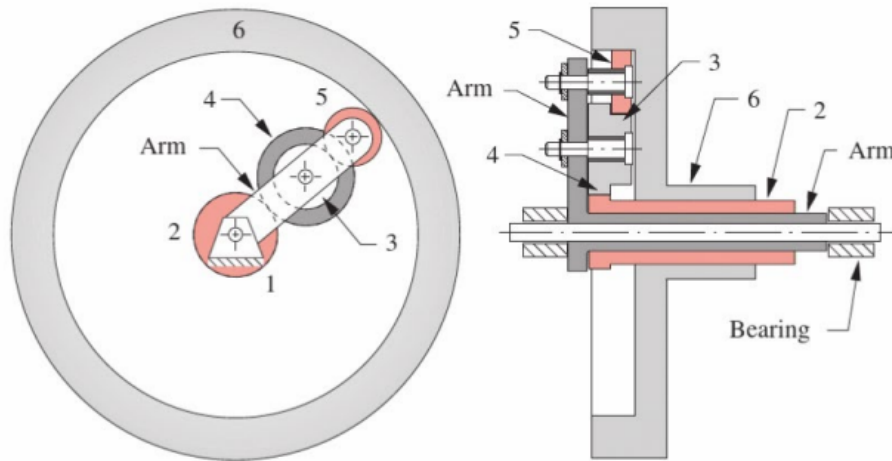

FIGURE P9-1
*†9-25 Figure P9-1 shows a compound planetary gear train (not to scale). Table P9-1 gives data for gear numbers of teeth and input velocities. For the row(s) assigned, find the variable represented by a question mark.
Problem 9-25: compound planetary train (Figure P9-1).
Problem: Figure P9-1 shows a compound planetary gear train with gears 2, 3, 4, 5, 6 and an arm. Using Row 1 of Table P9-1:
Checking: tutorial answer is $\omega_2 = 790 \text{ rpm}$ in the same direction as gear 6. The exact sign path depends on the specific engagement diagram from Figure P9-1. Using the tutorial answer directly: